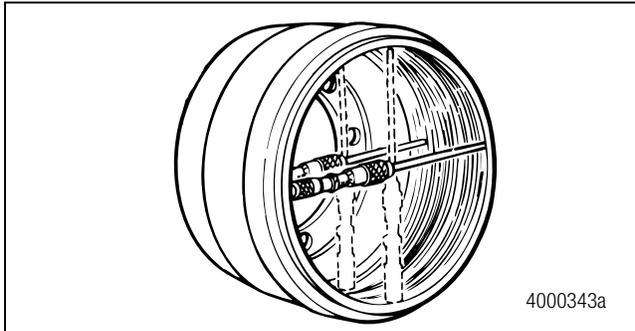

Figure 4.9
- B. Measure the inside diameter of the drum in several locations with a drum caliper or internal micrometer. Figure 4.9.